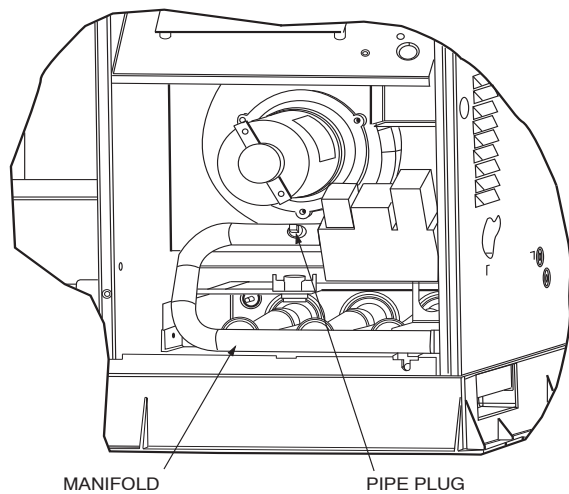

Fig. 5 - Two-Stage Burner Assembly
30. Remove the 1/8 in. pipe plug on the gas manifold and connect a pressure manometer (see Fig. 5).
34. Turn off unit, remove pressure manometer and replace the 1/8 in. pipe fitting on the gas manifold (see Fig. 5).